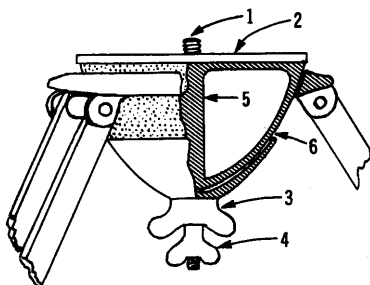

Figure 3. Johnson tripod head
1. Loosen both wing nuts of the Johnson head (3 & 4 in figure 3).